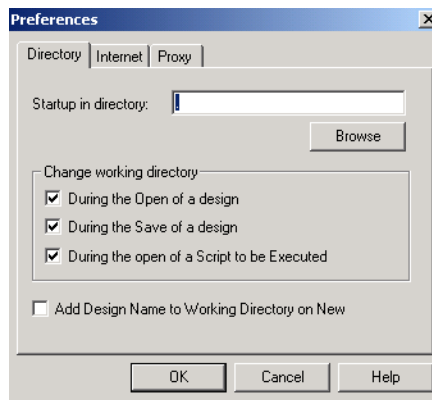

Figure 2-47. Directory Preferences Dialog Box
1. **From the File menu, click *Preferences*.** The Program Preferences dialog box appears, as shown in Figure 2-47.